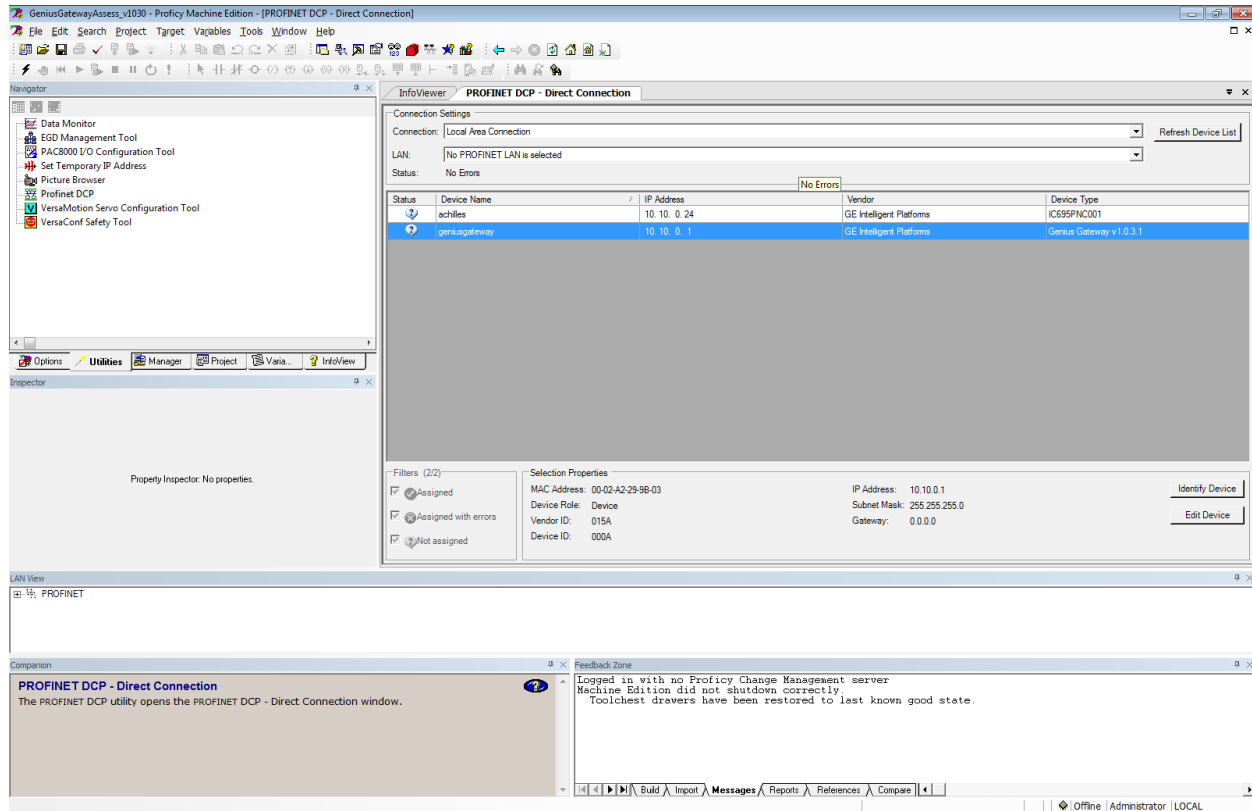

Figure 12: PROFNET Discovery Screenshot
4. Use PROFINET/DCP tool in Machine Edition to assign a name to the GCG001 Gateway so that the PROFINET Controller can connect to it and send its configuration. To do this, right-click the PNC001, then select **Launch Discovery Tool GCG001**. The tool will appear in a new InfoViewer tab entitled **PROFINET DCP – Direct Connection** (see Figure 12).